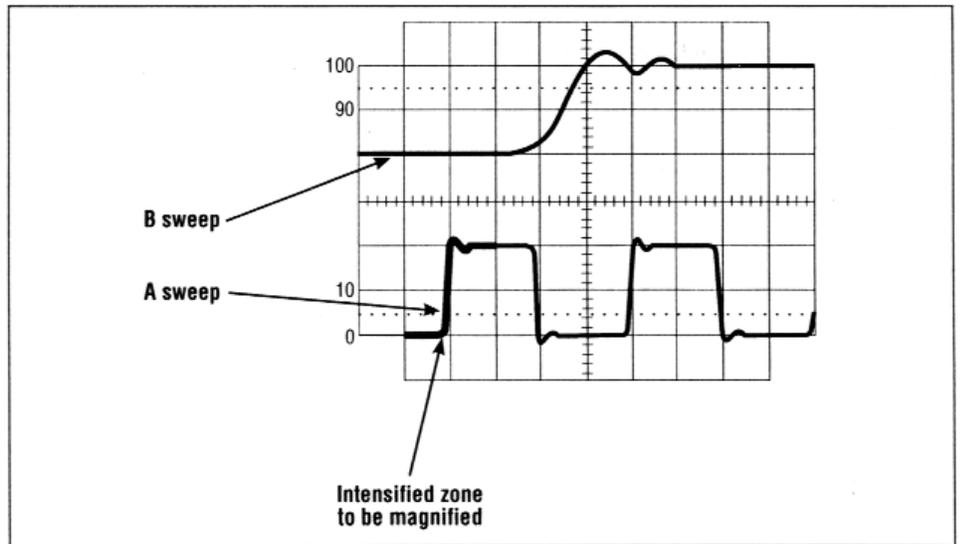

Fig. 7 Delayed sweep display.
4. The display will show the main sweep on the left portion of the trace and the delayed sweep on the right portion of the trace, as shown in Fig. 7. The main sweep portion is usually brighter than the delayed sweep portion.